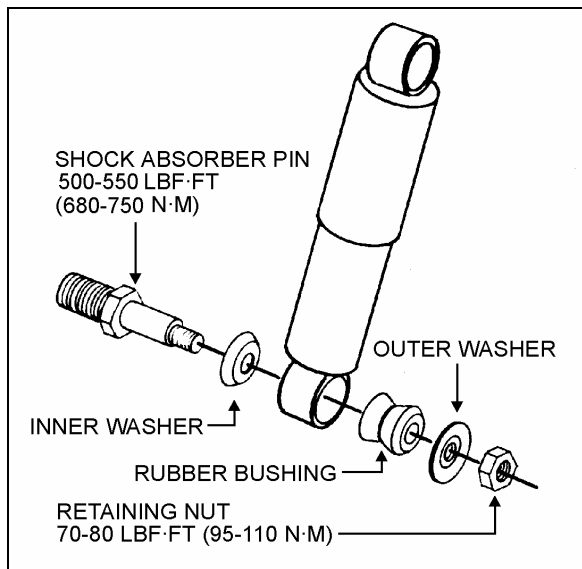

FIGURE 40: SHOCK ABSORBER
1. Remove nuts and washers from shock absorbers on upper and lower mounting pins, taking care to identify the inner and outer washers to ease reinstallation. Refer to figure 40 for details.